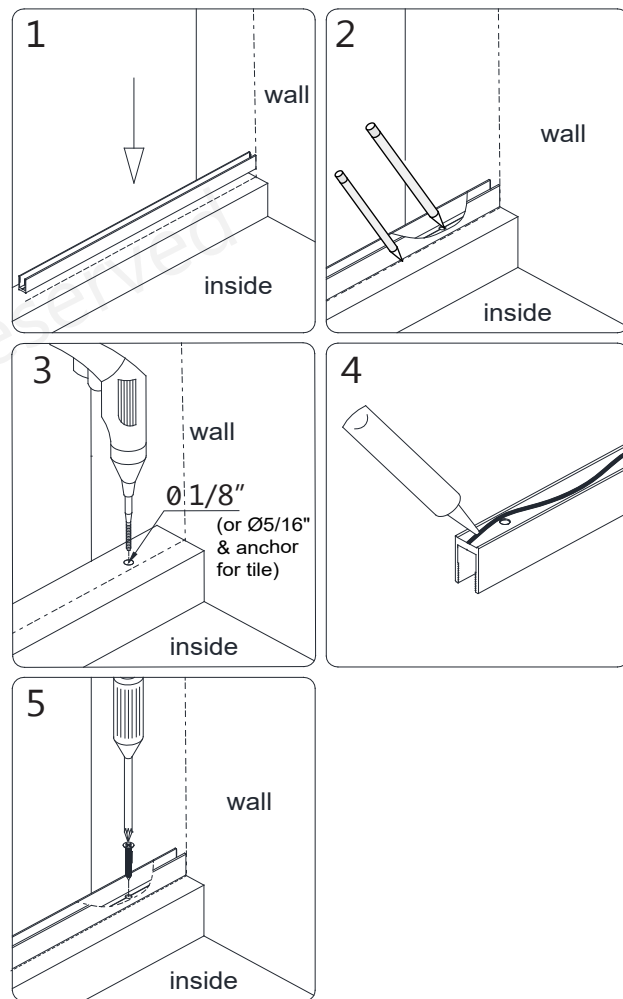

Fig 12
- Apply a bead of silicone to the bottom of the **U-channel 2 (bottom profile) (#29)** and attach it to the threshold using the **ST4.2 x 40mm Countersunk Screws (#23)**. (Fig 12)